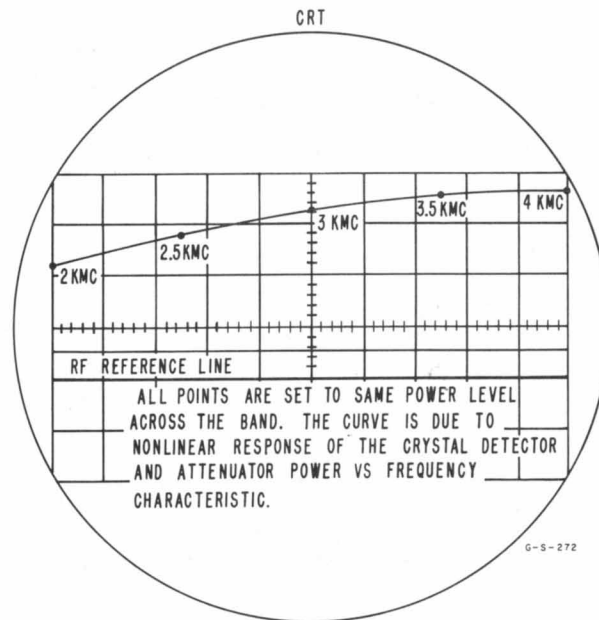

Figure 4-12. Crystal Detector-Attenuator Response Curve
- f. For an rf reference draw a line with a grease pencil at some arbitrary point on the oscilloscope graticule. Set the oscilloscope beam at the rf reference line (see figure 4-12).
- h. The point at which the oscilloscope electron beam deflects vertically from the reference line is the 30 milliwatt point at 2 kmc (gc). Place a mark on the oscilloscope graticule as shown in figure 4-12.
**Note:** As each point is plotted on the oscilloscope, the oscilloscope HORIZ. POS. control must be rotated to move the power point to a new position on the graticule (see figure 4-12). The space between positioned plots on the oscilloscope graticule can be easily interpolated. With oscillator power output a constant across the band, any indicated power variation is due to the characteristic of the crystal detector and attenuator used in the test setup. If not compensated for, these will introduce appreciable error.
- j. Connect points on the graph (see figure 4-12). This will give a permanent record of the power-line curve for the particular crystal and attenuator used.